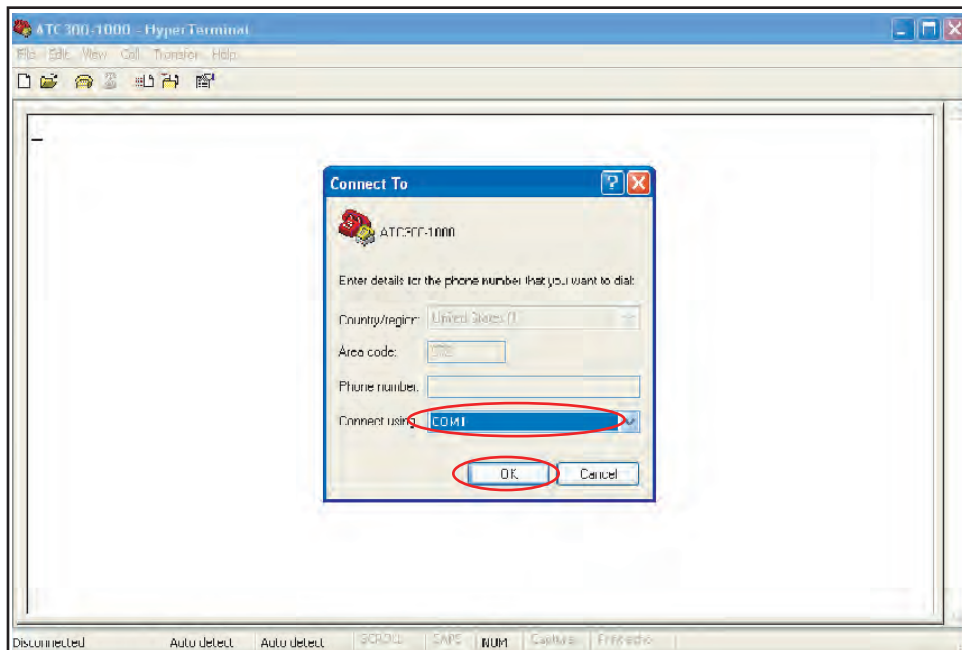

Figure 5-4. Connect To COM1 Serial Port.
6. Select **COM1** from the **Connect To** drop down menu (Figure 5-4).